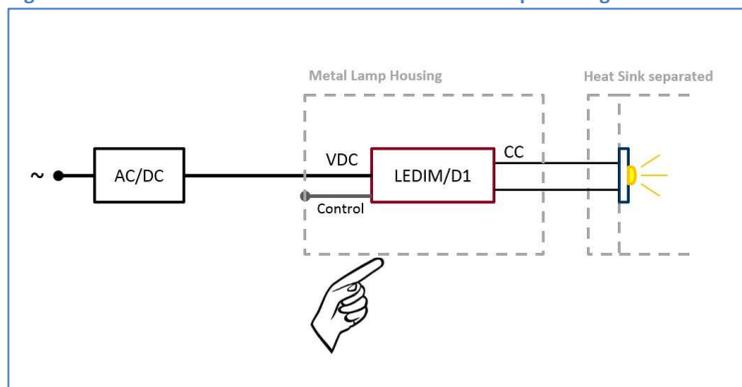

Figure 8: Less Critical Condition: Heat Sink not connected to lamp housing
- COBs or LED engines made of ceramic material are less critical in terms of parasitic capacity. So are cases, where the LED engine is electrically separated from the touch surface (see Figure 8).